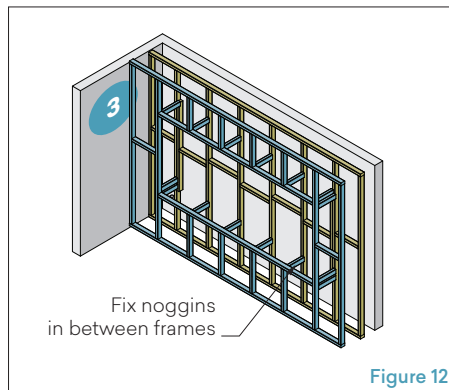

Figure 12
**3.** Fix noggins in between frames so that plasterboard or engineered timber board can be fixed. (Figure 12)